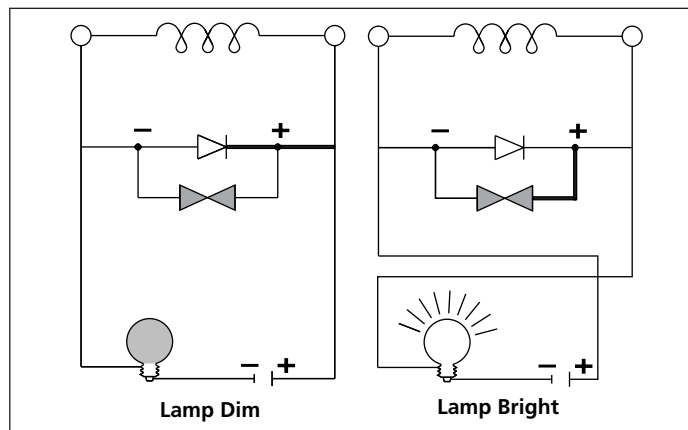

Figure 3 - Diode Test Procedure
2. Connect the battery and lamp as shown in Figure 3.